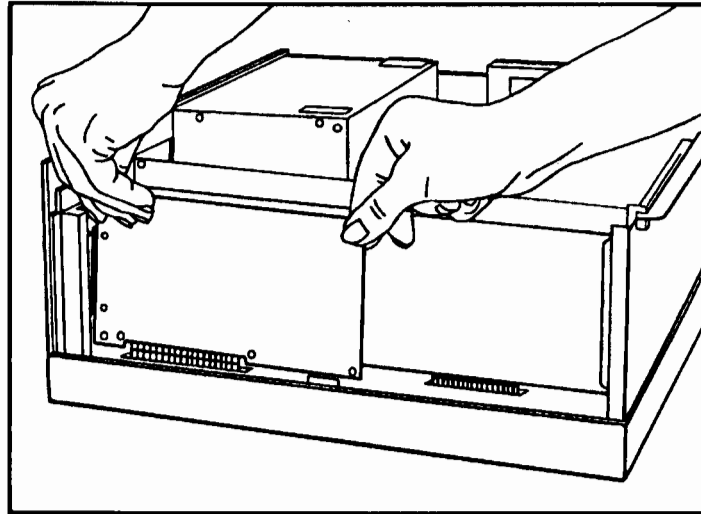

Figure 2-5. Installing the Interface Card
1. Position the interface card in your computer as shown in figure 2-5.